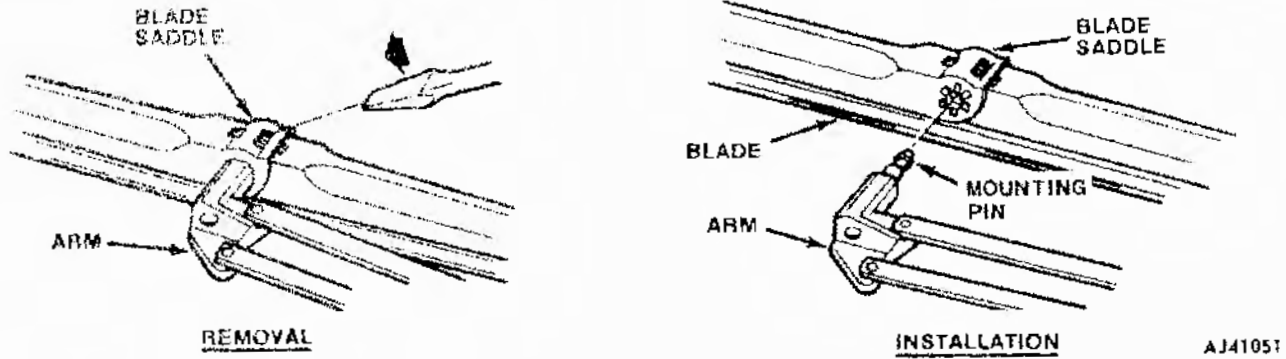

Fig. 17-9 Wiper Blade Replacement
(1) To remove wiper blade from mounting pin on wiper arm, insert a screwdriver into spring release opening of blade saddle and depress spring clip. Pull blade from arm (fig. 17-9).
(2) To install, push blade saddle onto mounting pin so that spring clip engages pin. Be sure blade is securely attached to arm.